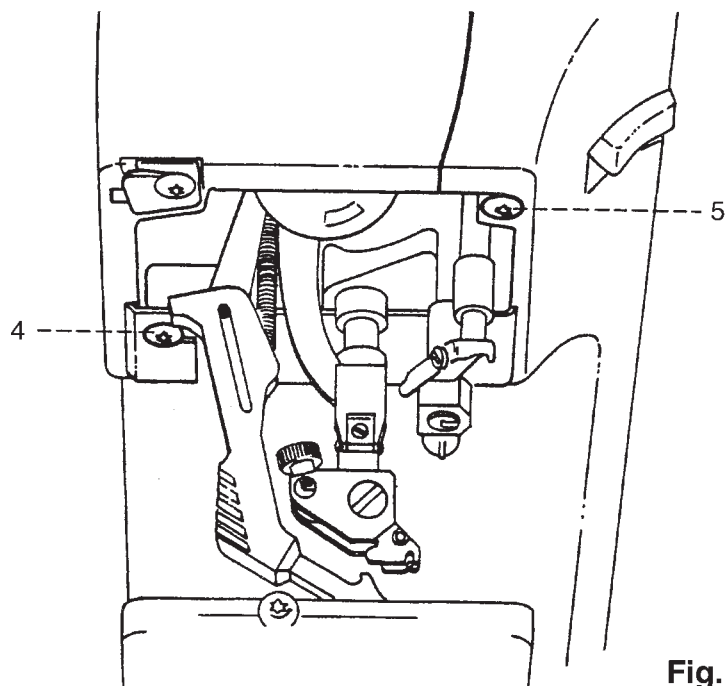

Fig. 3
- Loosen the fastening screws 4, 5, 6 and 7 of the rear housing shell (fig. 3 and 4).